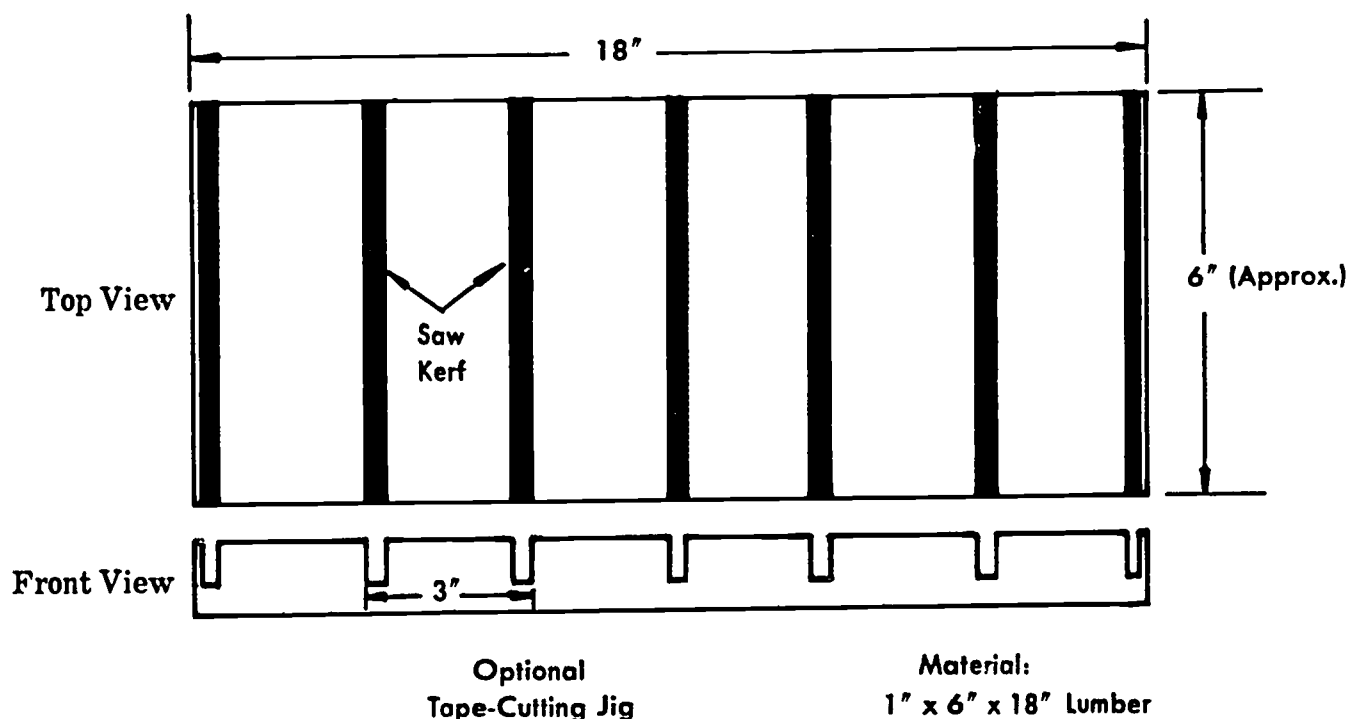

Fig. 169-1. Optional Tape-Cutting Jig
3. When the package is closed with the product, etc. inside, tape it shut around the bottom edges. See Fig. 169-1 for use of a tape-cutting jig.